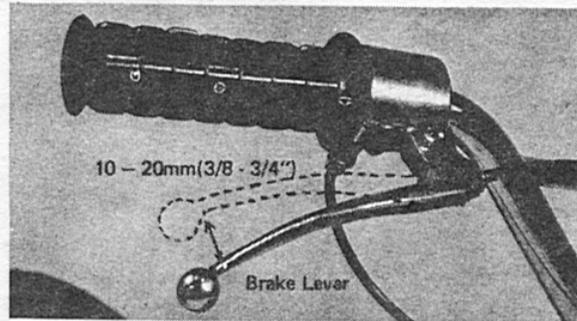

Fig. 47
1. The front brake should be adjusted so there is 3/8 to 3/4 of an inch of free play in the hand lever. (Figure 47)